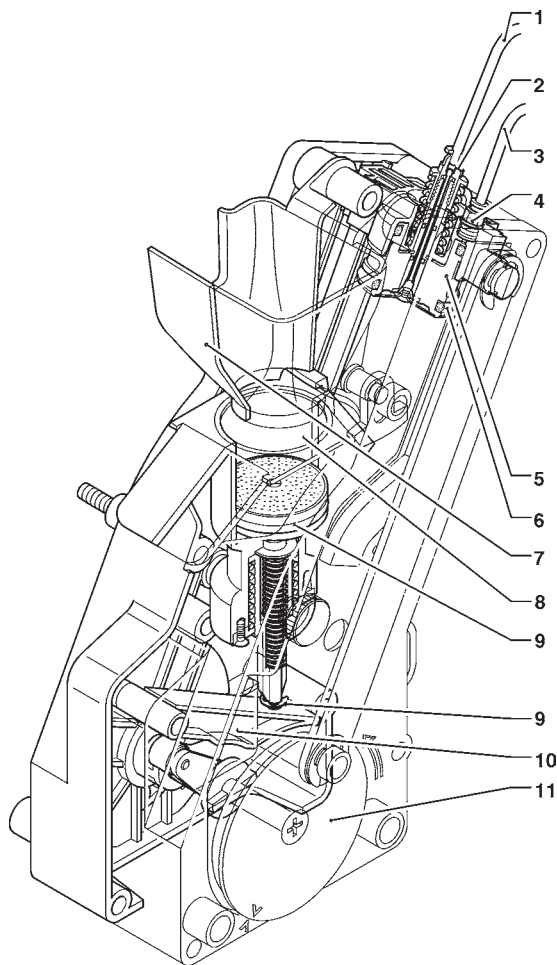

Fig. 15
When the ground coffee dose is reached, the ratiomotor engaged with the handle (11) located outside the assembly rotates by 180°, making the brew chamber swing (8) (see Fig. 15).